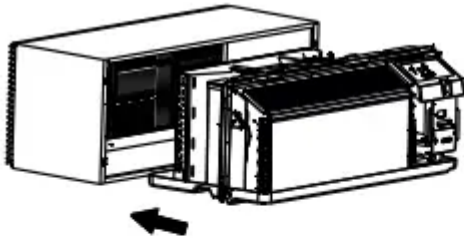
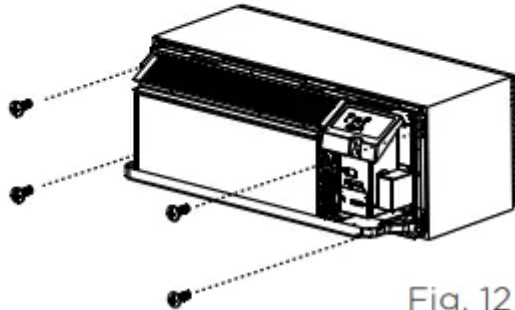

Fig. 11
Fig. 12
- Lift unit level and slide unit into wall sleeve until firmly against front of wall sleeve and secure with 4 screws and washers (supplied in the SLEEVE ASSEMBLY) through the unit flange holes. (see Fig. 11 and Fig. 12).